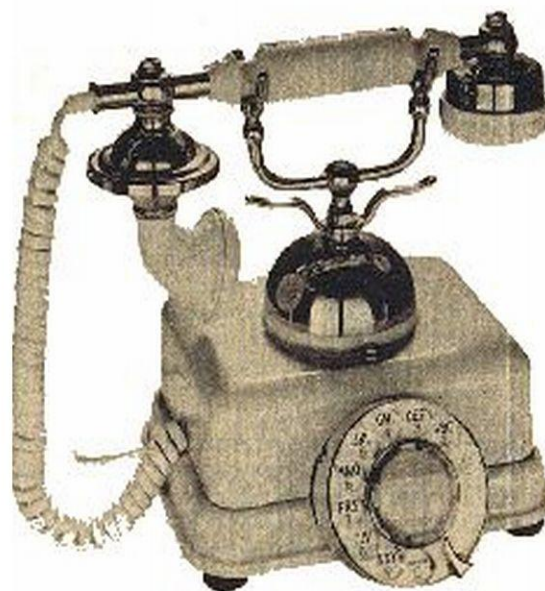

Figure 8. Model US-4 Decorator Telephone Set Housing, with LM-625 Kit Installed.
3.22 If the dial is equipped with the current, one-piece acrylic fingerwheel, remove the fingerwheel, insert the preprinted station number disc supplied for this installation (or imprint one to suit, if required), and replace the fingerwheel (see Figure 8). If the dial fingerwheel is an earlier type with a metal escutcheon, and the decorator set housing is equipped with a rectangular number strip escutcheon, select the preprinted Touch Calling style number strip supplied for this installation (or imprint one), and install it in the housing escutcheon, trimming one end to fit as required. Install the decorative disc removed from the dummy dial in the circular escutcheon on the fingerwheel. If the fingerwheel has a metal escutcheon and the decorator set housing has no strip escutcheon, install the station number disc in the fingerwheel escutcheon.